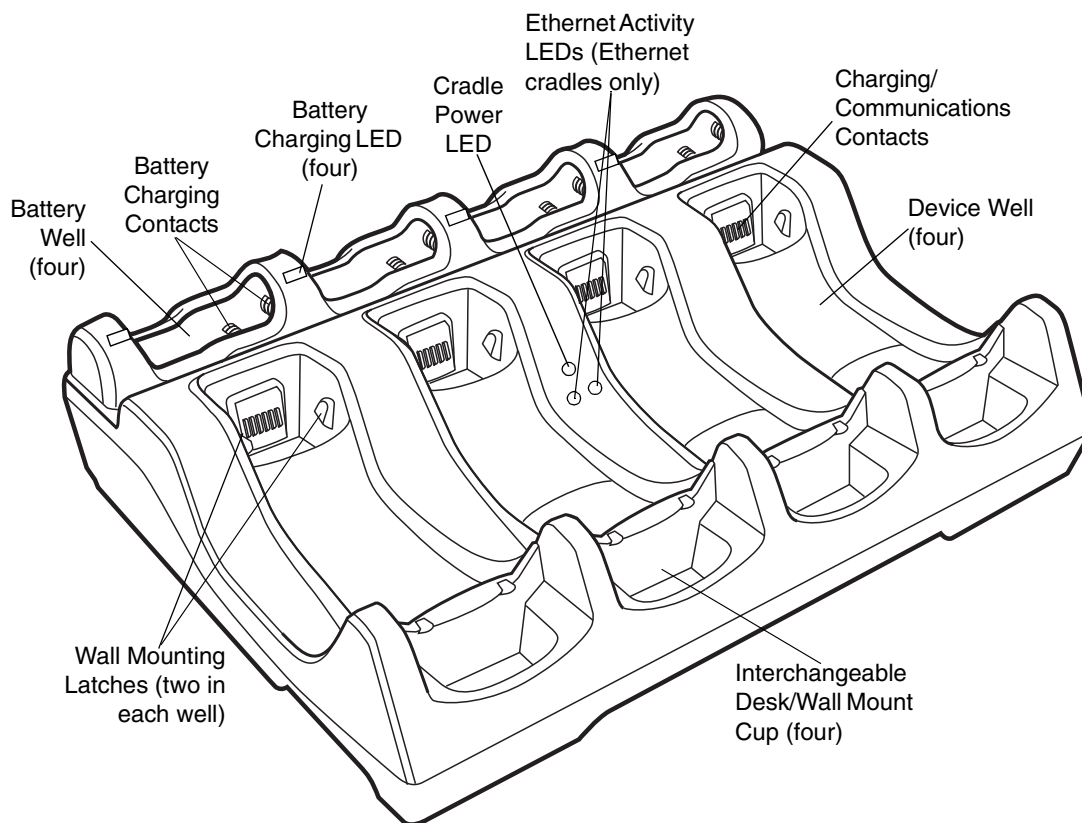

Figure 1-5 Four Slot Cradle - Front
1. Insert the host interface cable into the cradle's USB/host port. See Figure 1-2 on page 1-4 and Figure 1-5 on page 1-7.